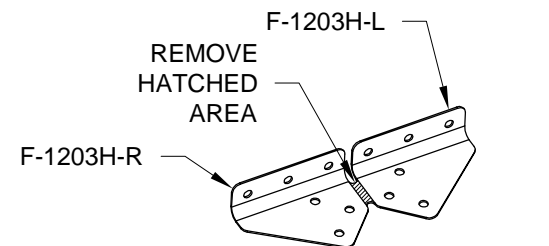

FIGURE 2: SEPARATING THE ARM REST BRACKETS
Step 3: Cut apart then deburr F-1203H-L & -R as shown in Figure 2.